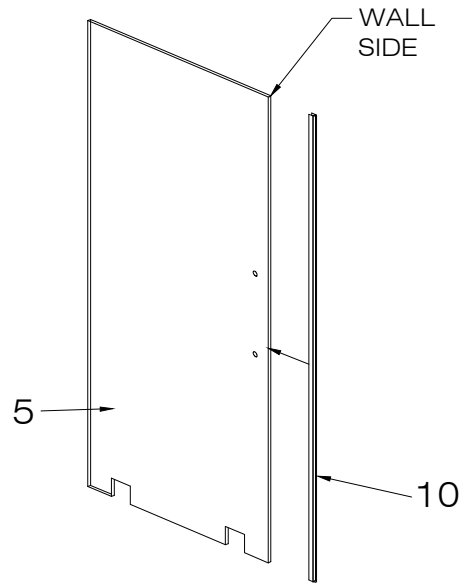

FIG.9
5. Place the seal strip (#10) to the door panel on the side that closes to the wall. [SEE FIG.9]